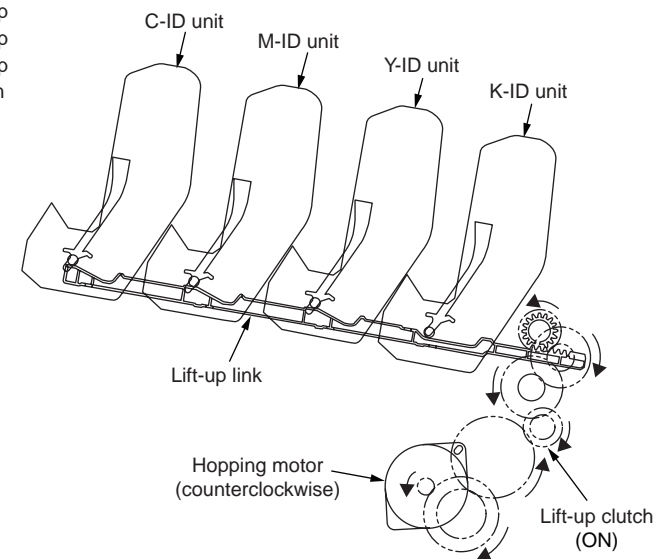

Figure 2-7
3. Figure 2-7 shows the motions of the different ID units when the printer is operated for monochrome print. As the hopping motor rotates (counterclockwise) and the lift-up clutch is ON, the lift-up link slides to the right, causing the ID units to go up, except for the K-ID unit, as can be seen in Figure 2-7. Namely, the printer is readied for monochrome print.